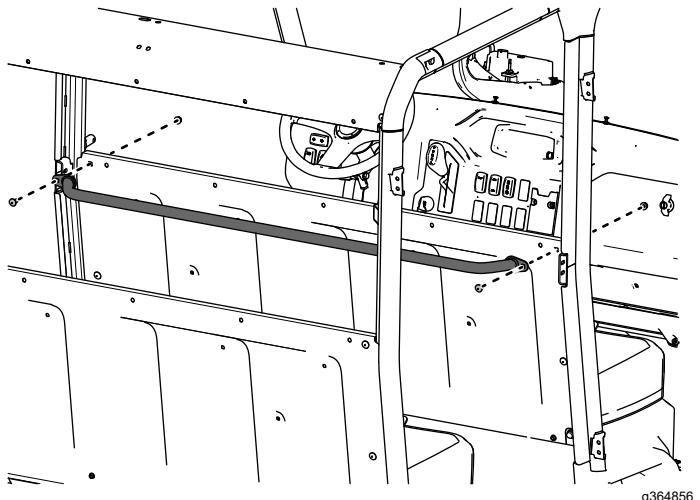

Figure 54
21. Loosely secure the rear seat handle assembly to the middle seat panel using 2 carriage bolts (5/16 x 3/4 inch) and 2 locknuts (5/16 inch) as shown in Figure 54.